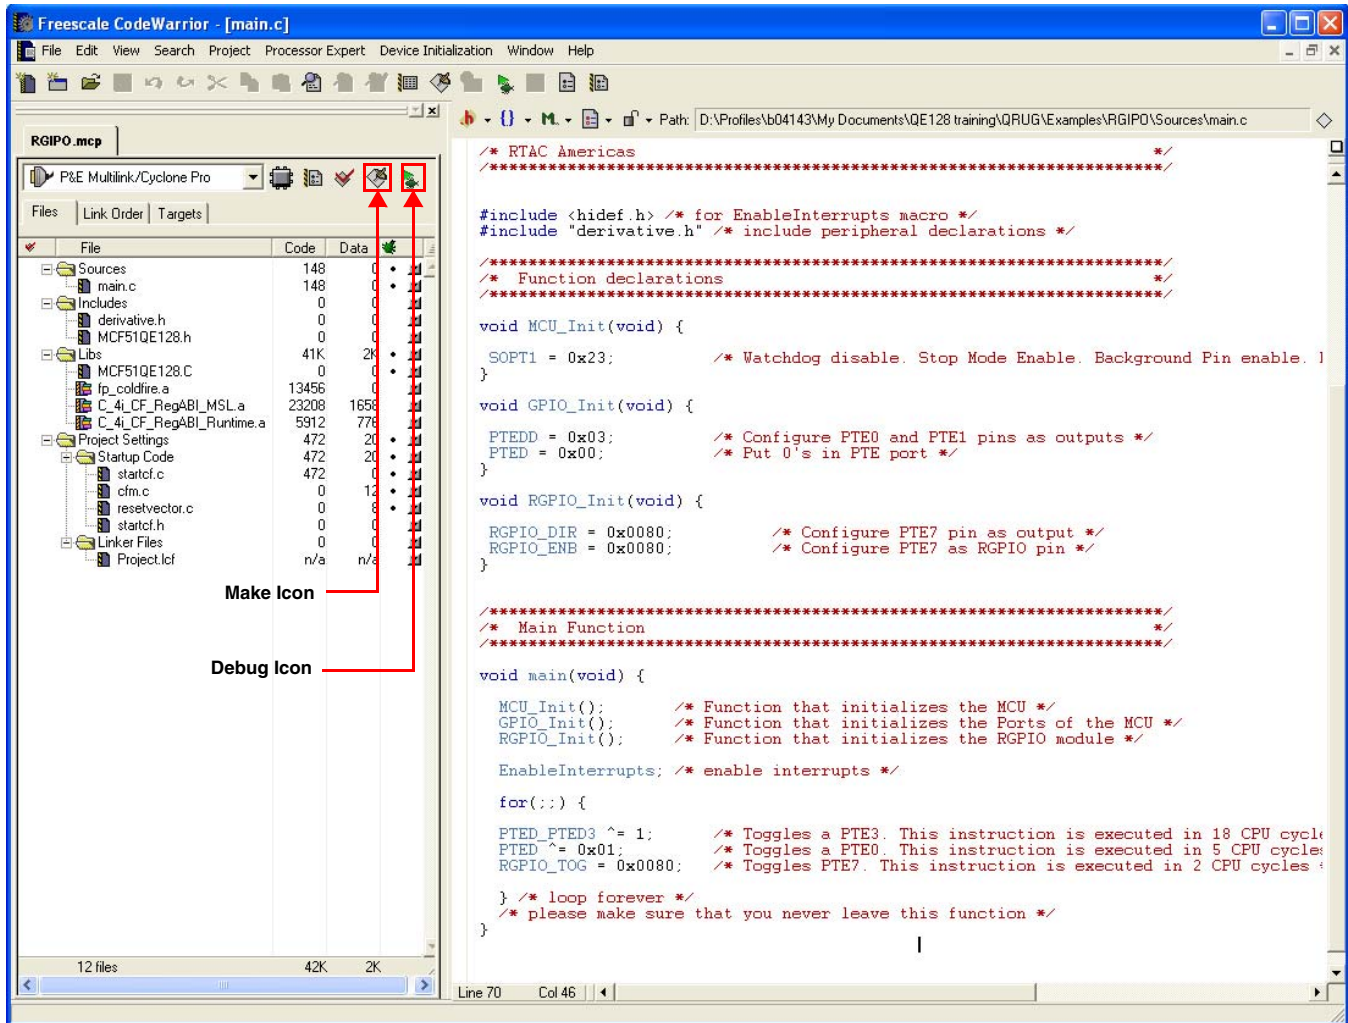

Figure 3-8. Make Icon and Debug Icon
8. Click on the make icon, beside the combo box, as shown in Figure 3-8. The make command can be accessed from the Project menu, -> Make, or just press F7 key on your keyboard.